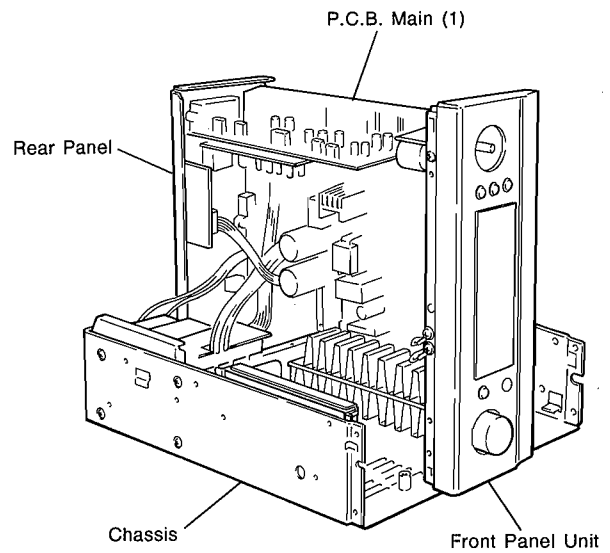

Fig. 4
- d. With the Main P.C.B. placed on its side as shown in Fig. 4, install the Front Panel unit.